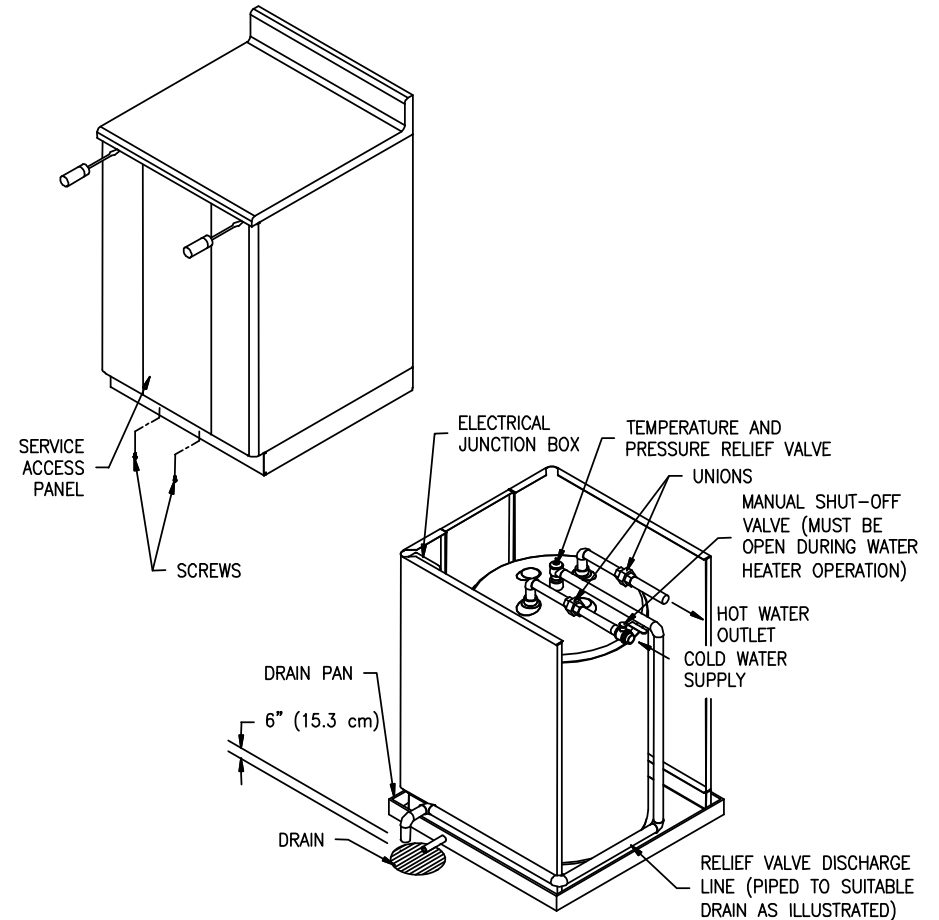

**Figure 2**
**Utility Models (See Figure 2)**